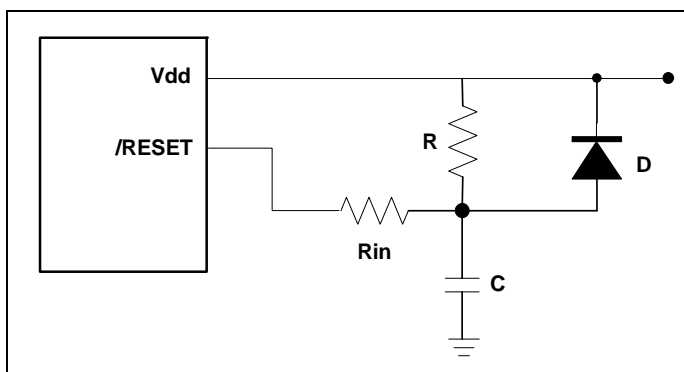

Figure 6-22 External Power-up Reset Circuit
The circuit shown in Figure 6-22 uses an external RC to produce a reset pulse. The pulse width (time constant) should be kept long enough for Vdd to reach minimum operation voltage. This circuit is used when the power supply has a slow rise time. Since the current leakage from the /RESET pin is $\pm 5 \mu\text{A}$, it is recommended that R should not be greater than 40 K Ω . In this way, the /RESET pin voltage is held below 0.2V. The diode (D) functions as a short circuit at the moment of power down.